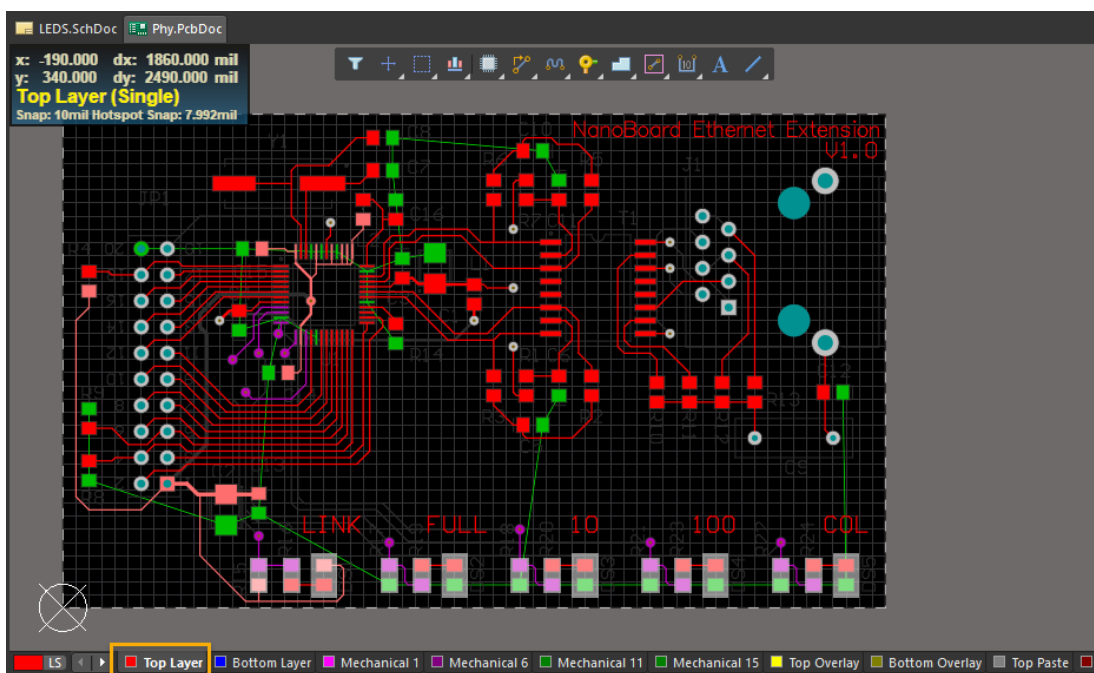

Figure 7. Single Layer Mode View
17. Ensure the Top Layer is the active layer by clicking on the *Top Layer* tab at the bottom of the PCB workspace as shown in Figure 7.
18. If not already active, change the view to single layer mode by pressing **Shift+S** to mask out other layers as shown in Figure 7 as well.